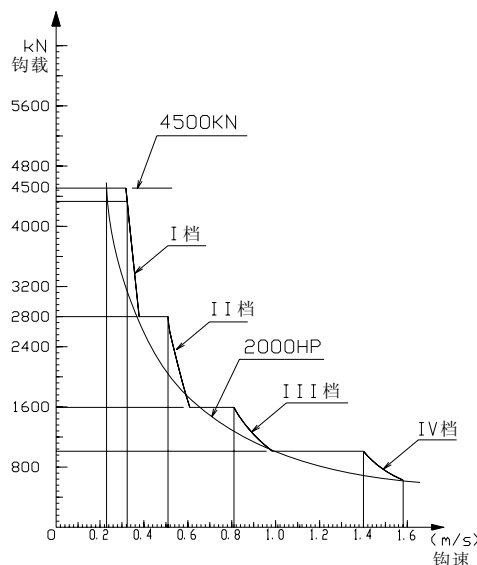

Fig.4-1 Loads and raising curve
- 2) During drilling jobs, adjust the speed according to loads and raising curve (Fig.4-1) to increase the usage of power.